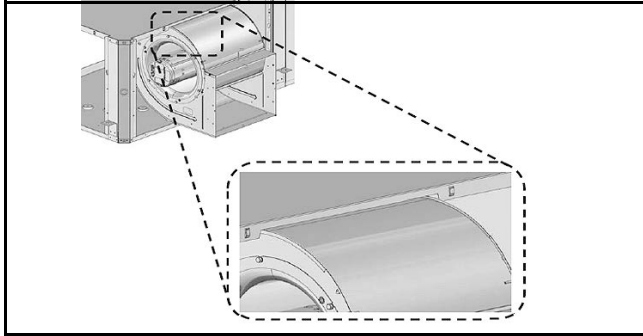

Fig. 35
12. Slide the blower back into the cabinet. (See Fig. 35.)